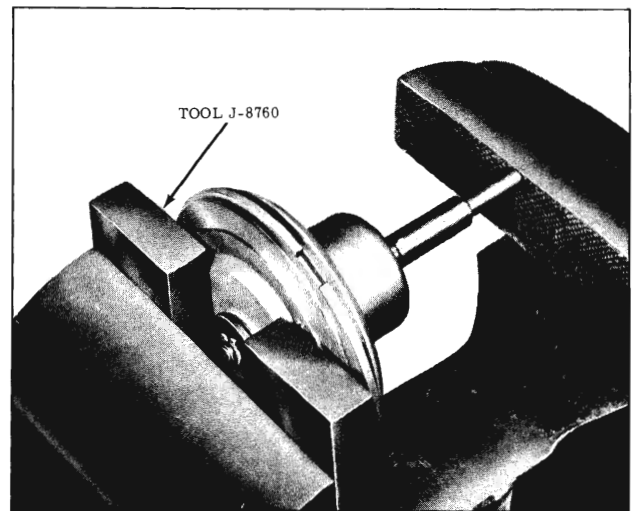

Fig. 3-272 Servo Piston Snap Ring
1. Clamp servo piston assembly and Tool J-8760 in a vice to compress springs for snap ring removal. (Fig. 3-272)